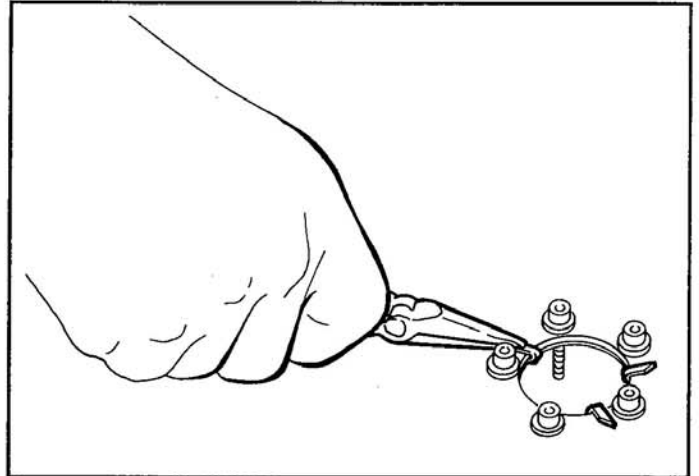

Fig. 10
15. With the needle-nose pliers, bend all three tabs up and over the tank edge as shown in Fig. 10. You don't have to bend the tabs over tightly, as long as they will hold the plate in place until the "Hot Fox" is installed. However, they must be pulled far enough to allow the Warmer to slide into the opening.